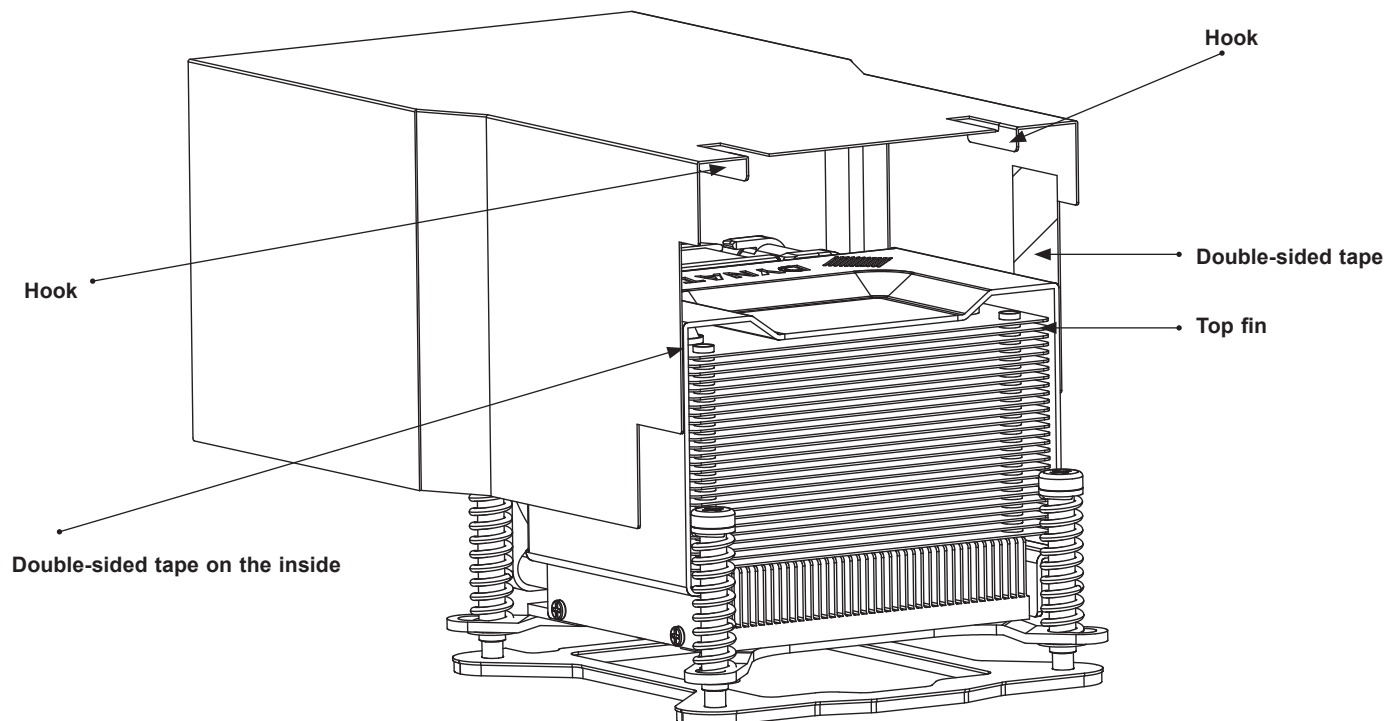

Figure 2-7. Installing the Air Shroud
3. Pull the rear tray out from the chassis (see Figure 2-7).